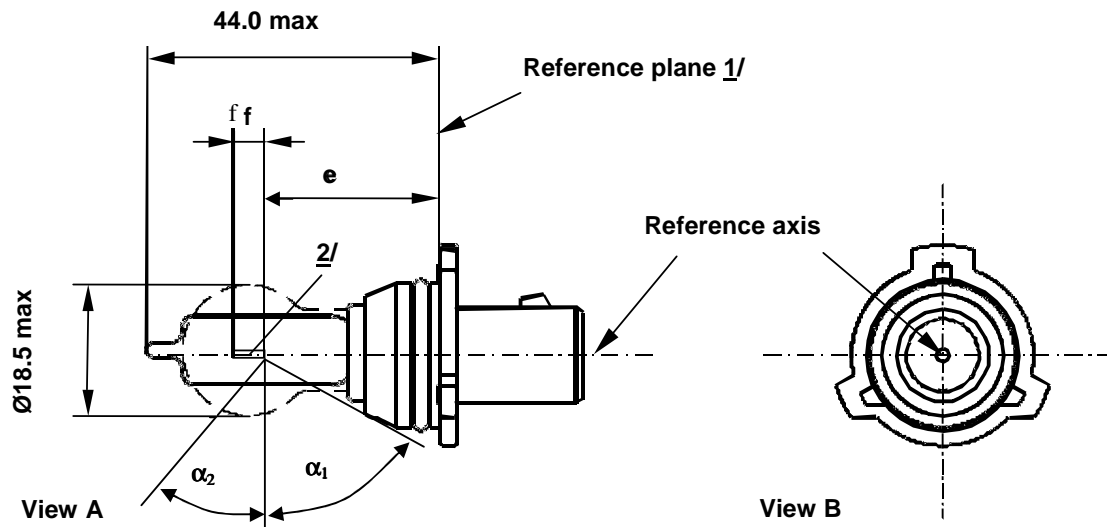

Figure 1 – Main drawing
- 6/ No part of the cap beyond the reference plane shall interfere with angle α2 as shown in Figure 1 on sheet PSX26W/1. The bulb shall be optically distortion free within the angles α1+ α2. These requirements apply to the whole bulb circumference.